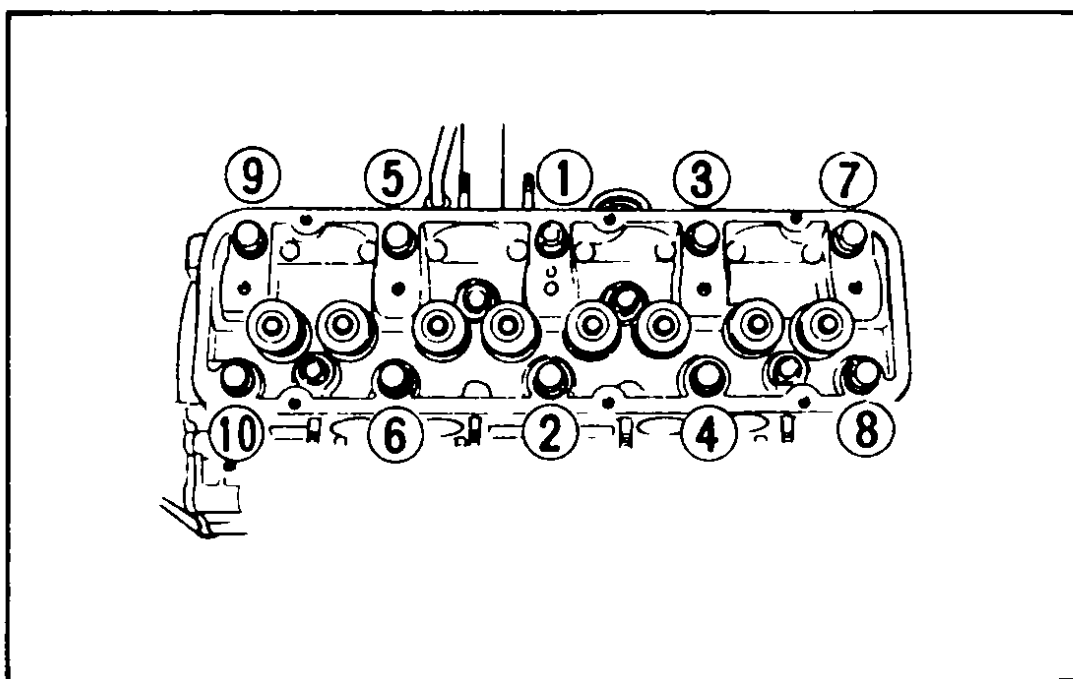

Fig 136 Cylinder head bolt tightening sequence – model B210
- 3 Tighten the bolts in three steps to a final torque of 70 to 75 N•m (51-54 ft -lbs) in the sequence shown in Fig 136